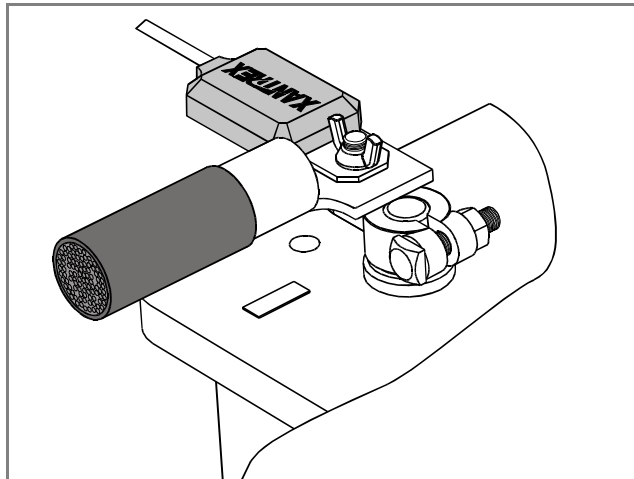

Figure 16 BTS Attached to Negative Battery Terminal
See Figure 16.
6. Mount the sensor directly on top of the negative DC wire terminal, as shown in Figure 16, and tighten the terminal nut firmly.